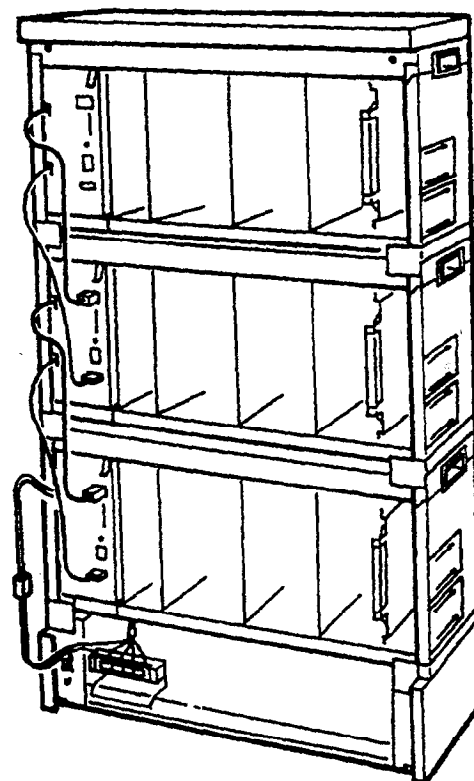

Figure 3-56 Installing the PSF-P-20 PSU in the Level II Advanced Expansion KSU
1. Install the PSF-P-20 PSU in the left slot of the Expansion KSU and secure using the two provided bolts. Refer to Figure 3-56 - Installing the PSF-P-20 PSU into the Level II Advanced Expansion KSU.